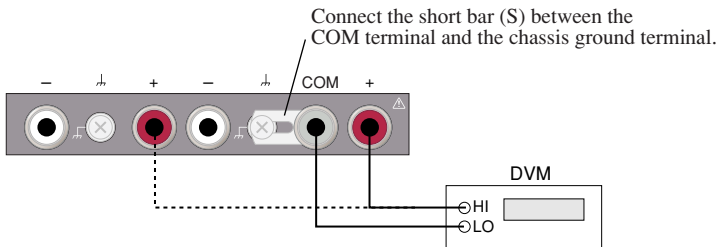
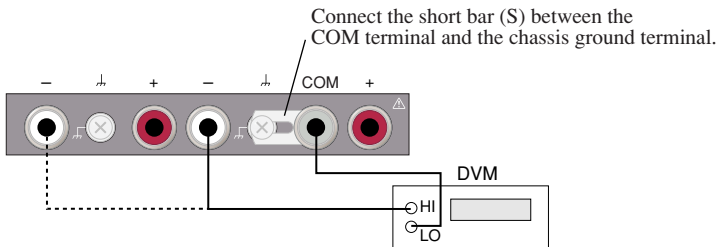
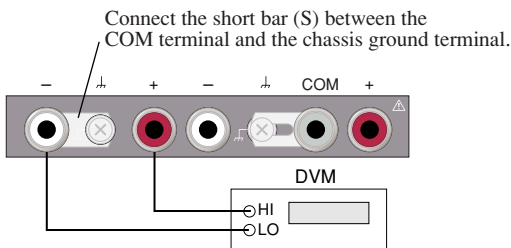

Fig. 6-2 Connections for voltage calibration (+ output)
Fig. 6-3 Connections for voltage calibration (- output)
Fig. 6-4 Connections for voltage calibration (6 V output)
2. Connect the DVM to the output terminal to be calibrated. To calibrate the positive (+) output, see Fig. 6-2. To calibrate the negative (-) output, see Fig. 6-3. To calibrate 6 V output (for the PMR-TR type only), see Fig. 6-4.